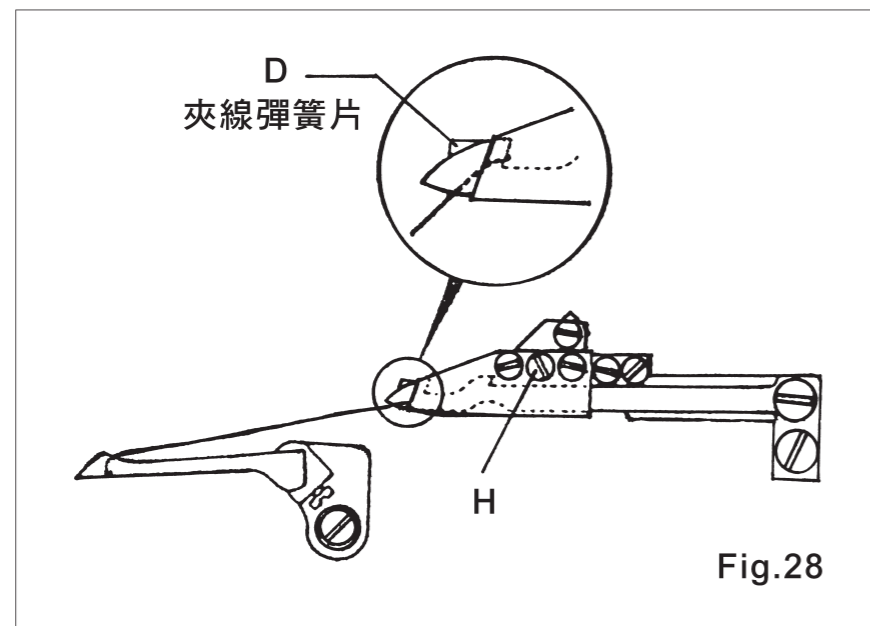

Fig.28
3. When the looper thread has been cut off, the Clamp Spring and Moving Knife will clip the thread in stable. To increase the pressure of clipping thread turn the screw (H) clockwise and decrease the pressure turn the screw (H) counter-clockwise. (Fig. 28)